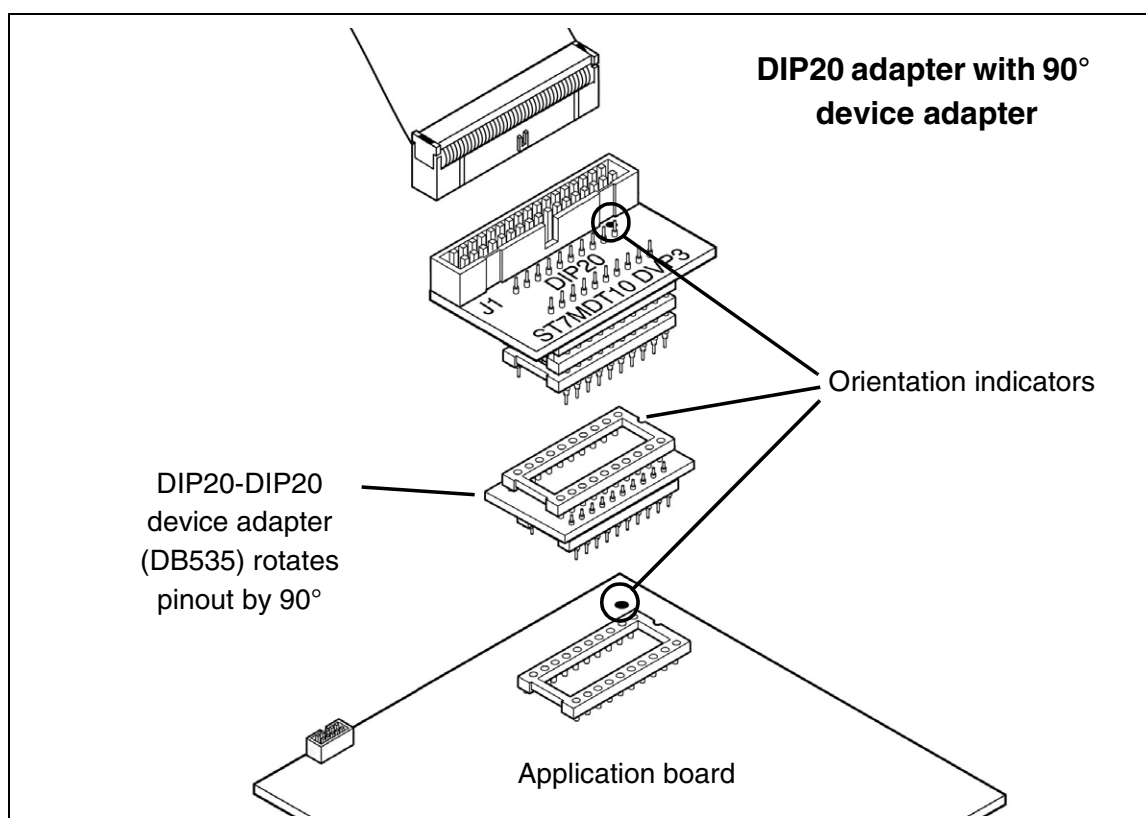

Figure 7: DIP20 connection to application board
- 4 Plug the other end of the 34-pin flat cable into J1 on the DIP20 adapter (ref.: DB586), as shown in Figure 7.
- 5 Insert the pins of the DIP20 adapter into the DIP20-DIP20 device adapter (ref.: DB535), as shown in Figure 7.
- 6 Insert the device adapter's pins into the socket soldered on your application board, as shown in Figure 7. Use the orientation indicators to ensure that the pin number 1 of the adapter, device adapter and socket are all aligned.